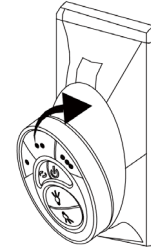

Fig. 28
**Step 2.** To make fan operational, install two 3V CR2032 batteries (included). The batteries should be installed with the positive (+) side up. Replace with CR2032 batteries when necessary. (Fig. 28)